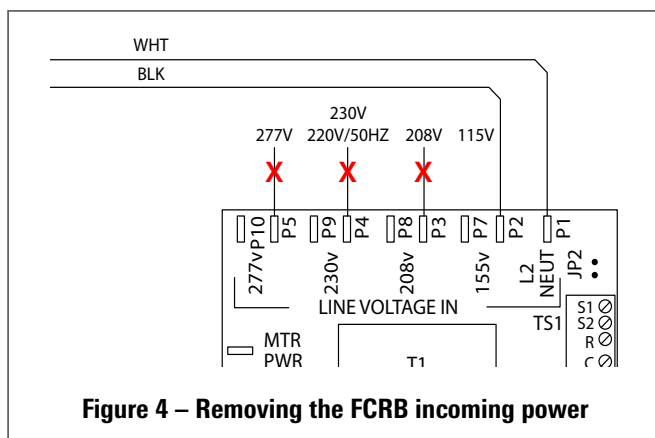

Figure 4 – Removing the FCRB incoming power
2. Remove BLACK wire from the appropriate line voltage pin on FCRB. The wire's location will depend on the unit's voltage. (See Figure 4.)